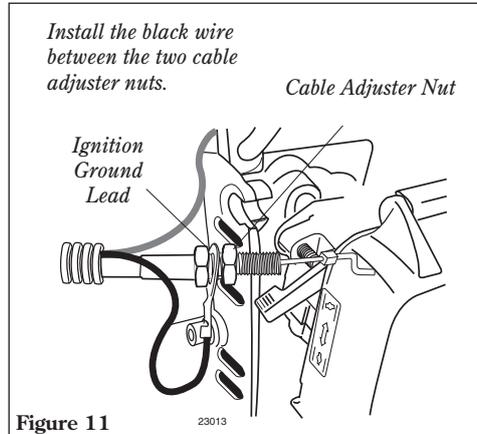

Figure 11
2. Install the black wire between the two cable adjuster nuts as shown. See Figure 11.